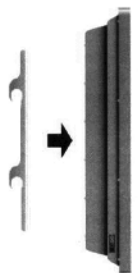

Fig. 2 - Attach the arms to the back of your display.
- Attach the arms to the back of your display using the bolts identified in Steps 1 and 2 along with the corresponding Lock Washer (C, F, I, or L) (see Fig. 2 and 3).
- If you are using the M4, M5, or M6 bolts (Bags 1, 2, and 3 respectively), you will also need to use the M6 Washers (O).
- If you are using one of the longer bolts on a display with a curved or recessed back, you will also use a Spacer (M or N). Use the Smaller Spacer (M) for M4 and M5 bolts and the Large Spacer (N) for M6 and M8 bolts.